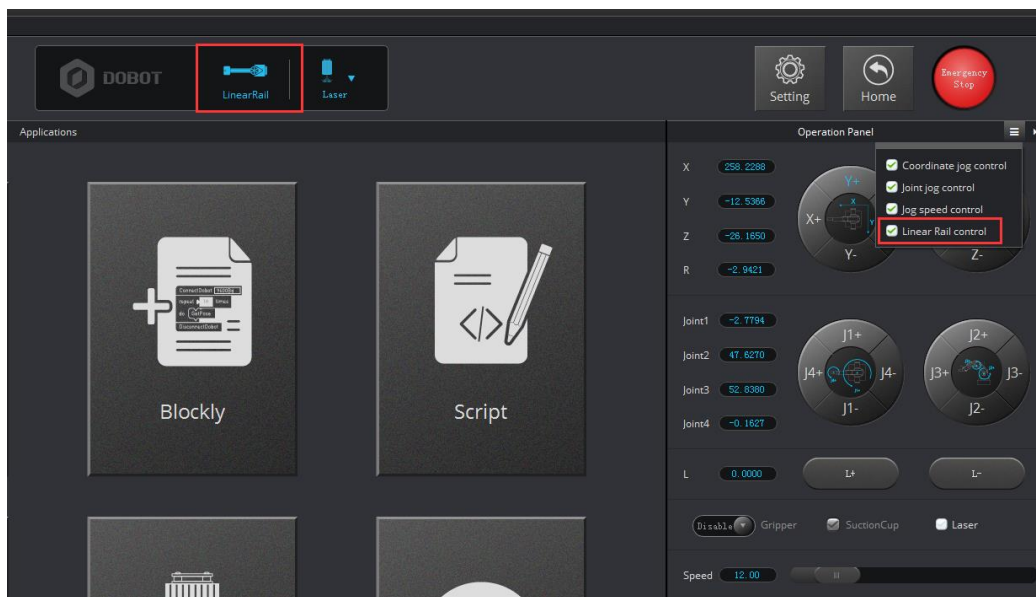

Figure 1.11 Click LinearRail
**Step 1** Open DobotStudio, click **LinearRail** and choose **Linear Rail control** on the DobotStudio page. As shown in Figure 1.11.